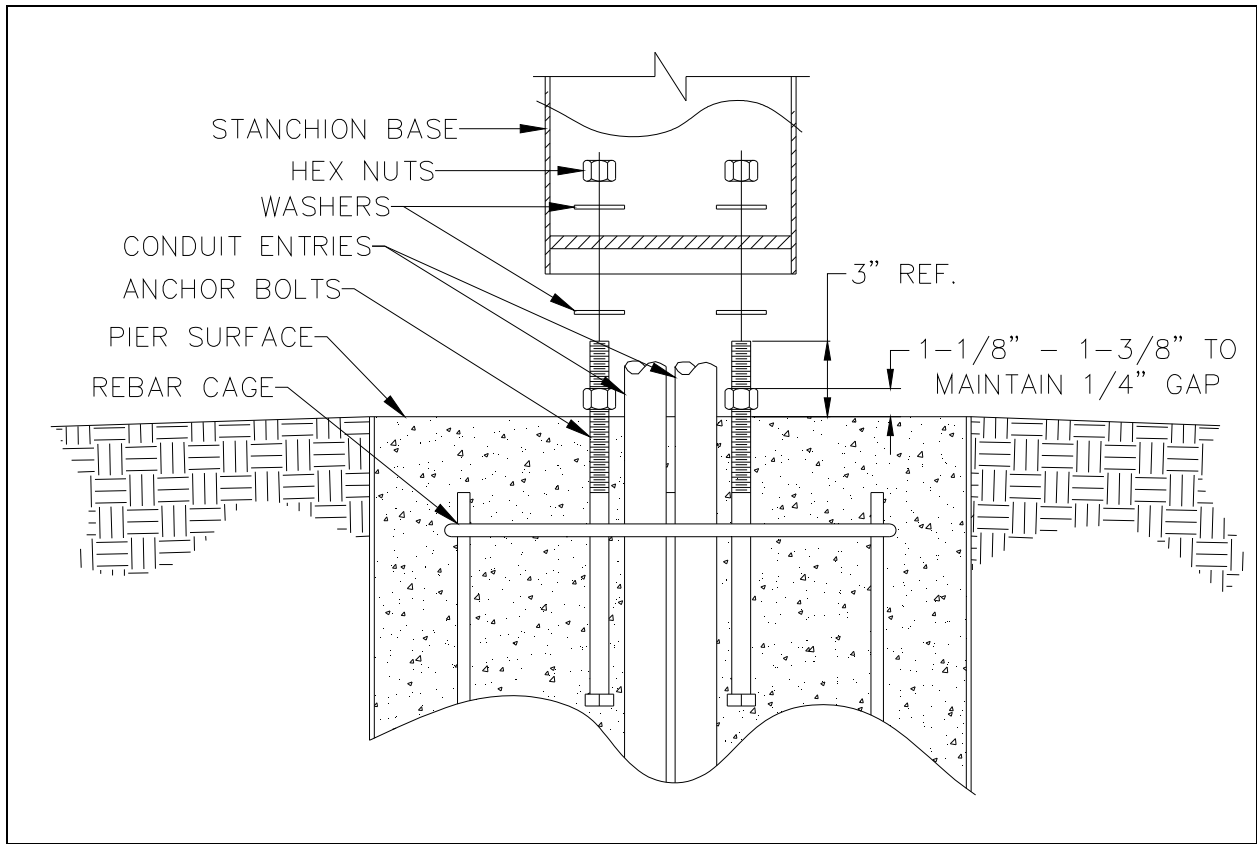

Figure 6. Exploded View
2. Place one washer over each nut (see Figure 6).